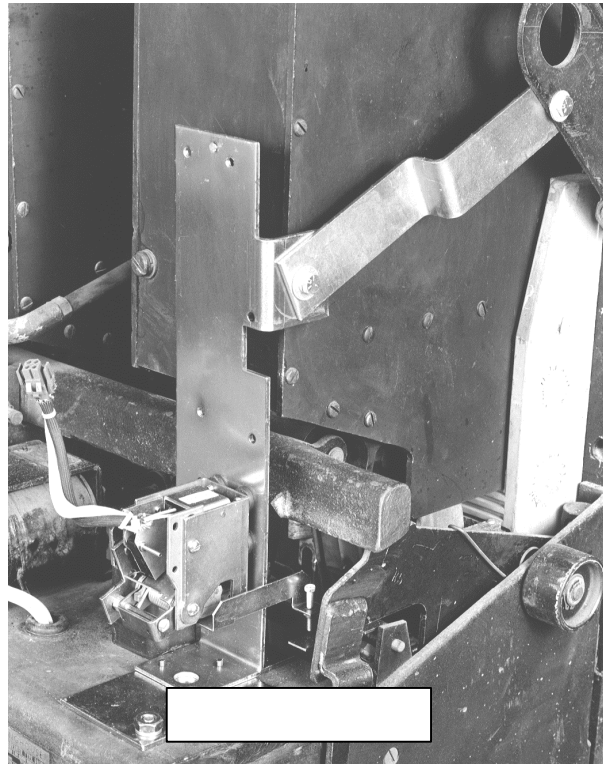

Figure 8. Trip unit mounting bracket installed on the breaker frame.
1. Mount the trip unit mounting bracket to the right side of the breaker frame, as shown in Figure 8. Insert the 5/16-18 x 1 1/4" bolt with two flat washers up through the frame and the hole in the bottom of the bracket. Secure with a lock washer and nut.
3. Slide the support bracket to the inside of the right breaker frame member, as shown in Figure 8, and secure it with the 1/4-20 x 3/4" bolt, lock washer, and nut provided.